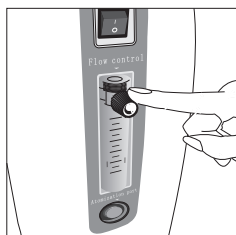

Figure 7
7. Adjust the flow to the prescribed setting by turning the knob on the top of the flow meter until the ball is centered on the line marking the prescribed flow rate. (Figure7)